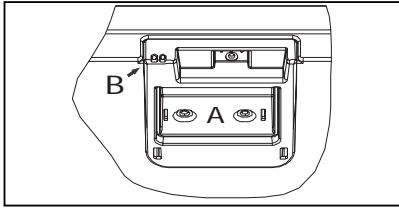

Figure 6.
7.2. Interior light (fig. 6.)
2. Reset the door control signal by holding the Remote control against the door opening sensor (Fig. 6. B) and push the button.